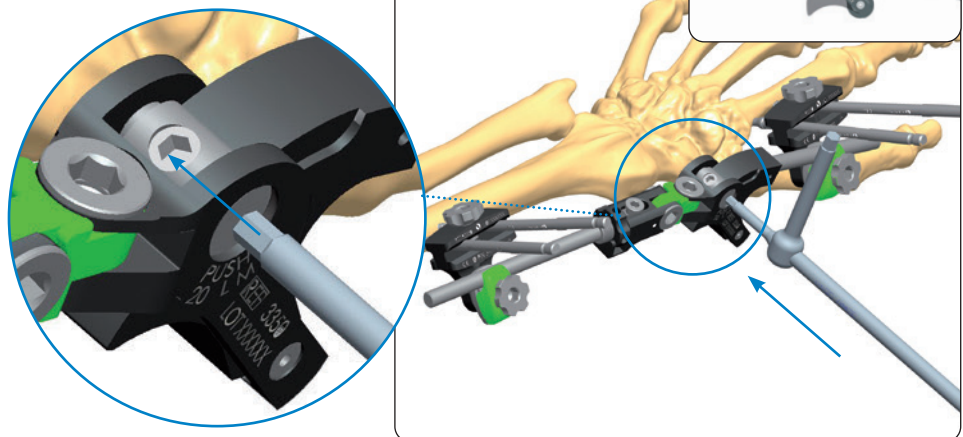

Fig. 26
- Push the Motion Range Selector in its inner seat with the Allen Wrench to gain  $\pm 20^\circ$  freedom (Fig. 26)